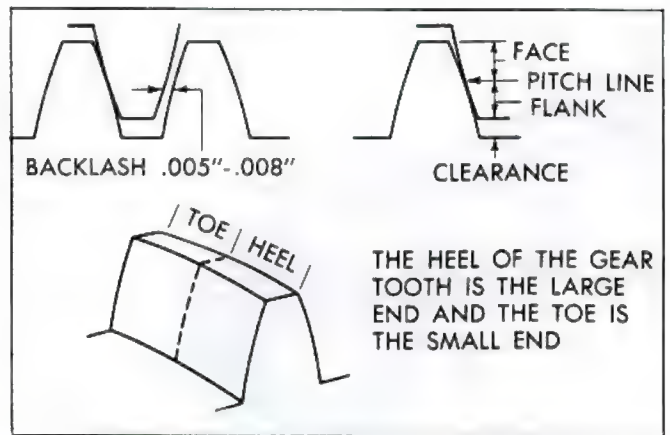
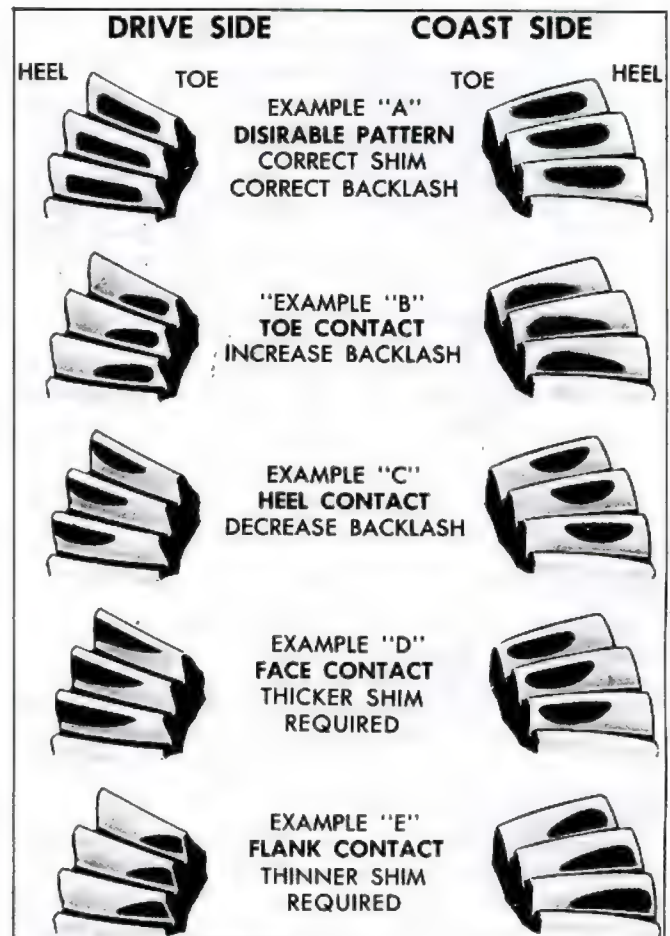

Fig. 51—Gear Tooth Nomenclature
Fig. 52—Ring Gear Contact Patterns
4. Inspect the contact pattern produced and analyze the results relative to the following data. Figure 51 provides gear tooth nomenclature and Figure 52 illustrates the various contact patterns which may be experienced.
Figure 52 shows correct and incorrect contact patterns. For illustrative purposes, "coast" side of gear contact is shown. Drive and coast side of gear teeth will have identical contact patterns.